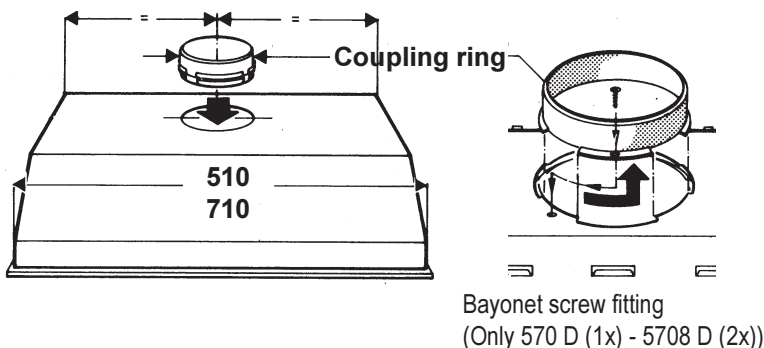

Fig. 1
- In this mode fumes are extracted to the outside via a hose connected to the coupling ring. **Fig. 1.**